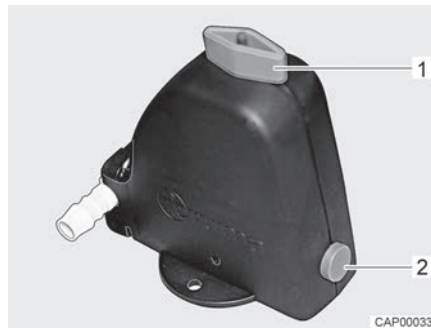
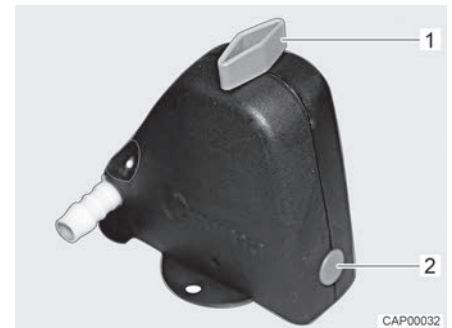

Fig. 139 Safety/drainage valve open
Fig. 140 Safety/drainage valve closed
- Close the safety/drainage valve. Turn the knob (Fig. 139,1) perpendicular to the safety/drainage valve and push the push button (Fig. 139,2) in. The closed safety/drainage valve is shown in Fig. 140. If the temperature is below 6 °C, the safety/drainage valve cannot be closed.